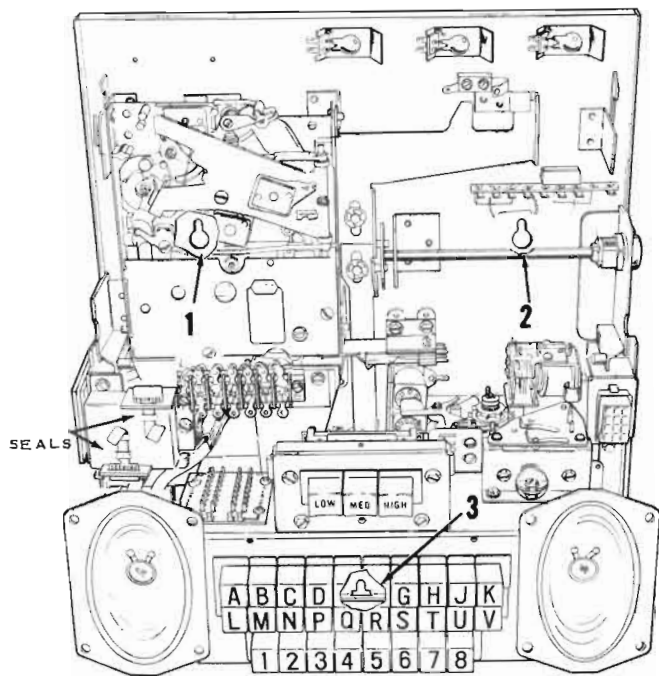

Figure 2. Interior View - Mounting and Seals..
The black and white wires of the interconnecting cable carry power to the lights and motor. The blue and black wires comprise a selection circuit to provide remote control of the selection system operation in the phonograph. The brown, red, and orange wires are for transmittal of coin deposit information to the income totalizer in the phonograph and their terminal board is covered and sealed as shown in Figure 2. The balance of wires in the cable are for audio and control of the stereo speakers in the Console.
There are three holes in the back plate for mounting, identified 1, 2 and 3 in *Figure 2*. The two upper holes are slotted for fitting over screws already set in the wall at the proper points. The lower hole is for rigidly mounting the Consolette by means of a screw, after it has been hung in place.
4. Replace the cover on the left hand terminal board; secure with two screws. Install one of the seals from the lower left side of the terminal board cover so that the serial number is right reading and fold the tab down at the score mark. Install the other seal from the upper right side of the terminal board cover and fold the tab up at the score mark. (*See Figure 2*).